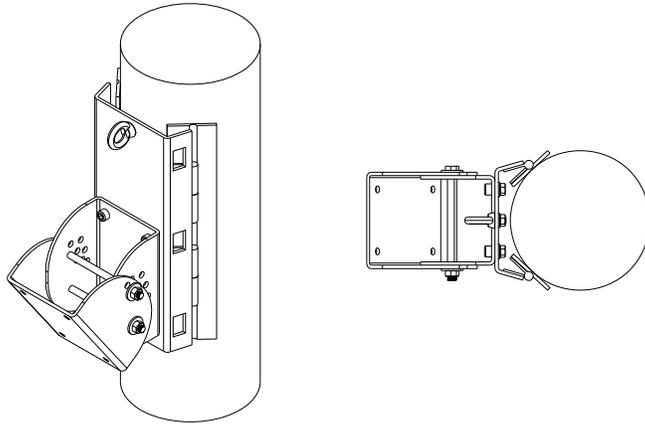
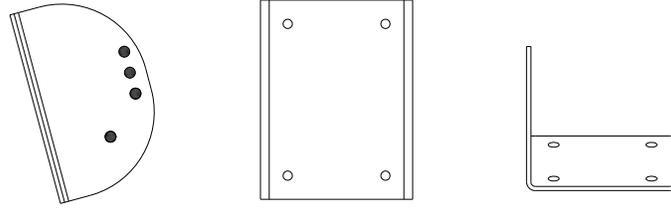
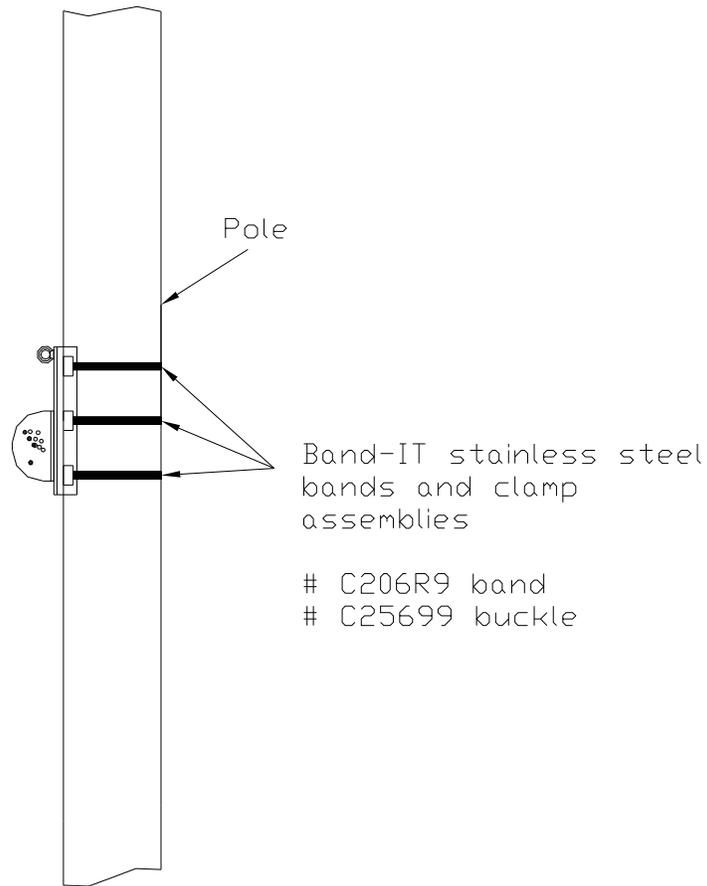

Figure 1.
Figure 2.
Figure 4.
The Pole Mount System consists of three parts: the pole bracket, the loudspeaker bracket, and the Safety Link. The pole bracket is shown in Figure 1. The bracket shown in figure 1 is designed for pole diameters of 8 inches (203.2mm) to 20 inches (508mm). The unique “self adjusting” hinge design of the pole mount will adjust to this specified range of pole diameters. Pole diameters smaller than 8 inches must not be used.
Figure 1 represents the isometric and top views of the pole bracket, including the loudspeaker bracket section. The loudspeaker bracket is shown separately in Figure 2.
1. Mount the pole mount section (see figure 1) of the bracket to the pole at the desired height on the pole. The bracket is mounted to the pole using BAND-IT stainless steel bands. **DO NOT SUBSTITUTE** bands of other material or other widths! There are three locations on the pole bracket for bands. **ALL THREE LOCATIONS MUST BE USED.** Figure 4 illustrates the locations for the stainless steel band clamps.